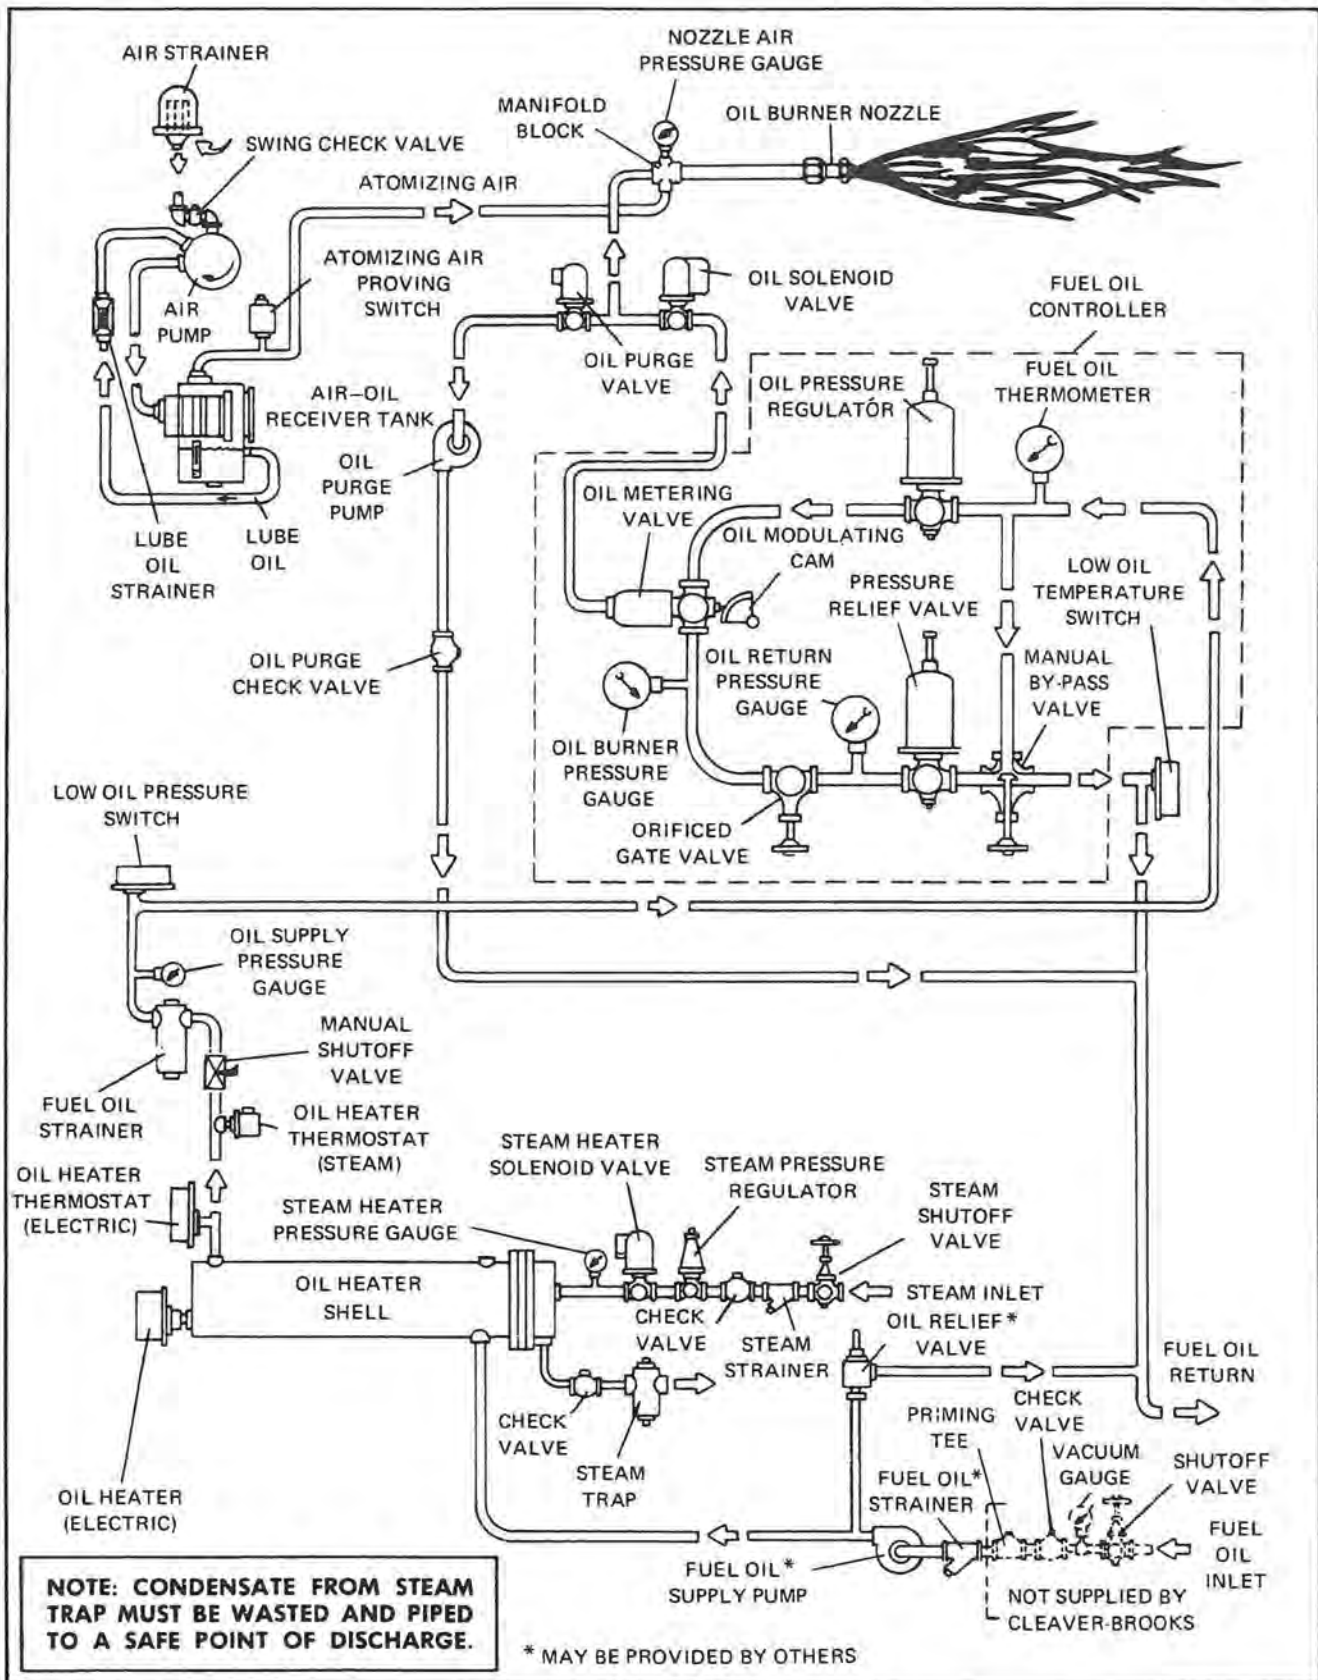

FIGURE 1-12. SCHEMATIC DIAGRAM FOR NO. 6 HEAVY OIL FLOW (STEAM-ELECTRIC HEATED)
- (11) Steam Trap (figure 1-12): Drains condensate and prevents loss of steam from the steam oil heater. Its discharge must be piped to waste.
- (12) Check Valve (Steam Heater Discharge) (figure 1-12): Prevents air entry during shutdown periods when cooling action may create vacuum within steam heater.
The oil fuel flow and circulating system is shown in schematic diagram form in Figure 1-12. The pertinent controls are called out and the oil flow is indicated by arrows.